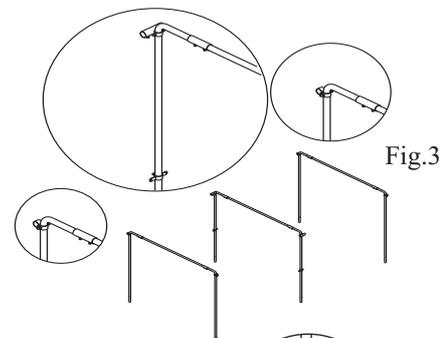

Fig.3
4 (You will need for this packs FEP600 and FEP601, and all the galvanised clamps from the fittings pack FPK218). Although Fig.3 shows the uprights standing, it is easier to assemble the uprights and crossbars while they are lying on the ground. Slide 2 top swage clamps (15) onto each crossbar (2.) Now fit an upright (1) into each end of the crossbar. Slide the clamp over the join so the join is roughly in the middle, then insert and fully tighten using 2 x M10 x 20mm bolts (16).